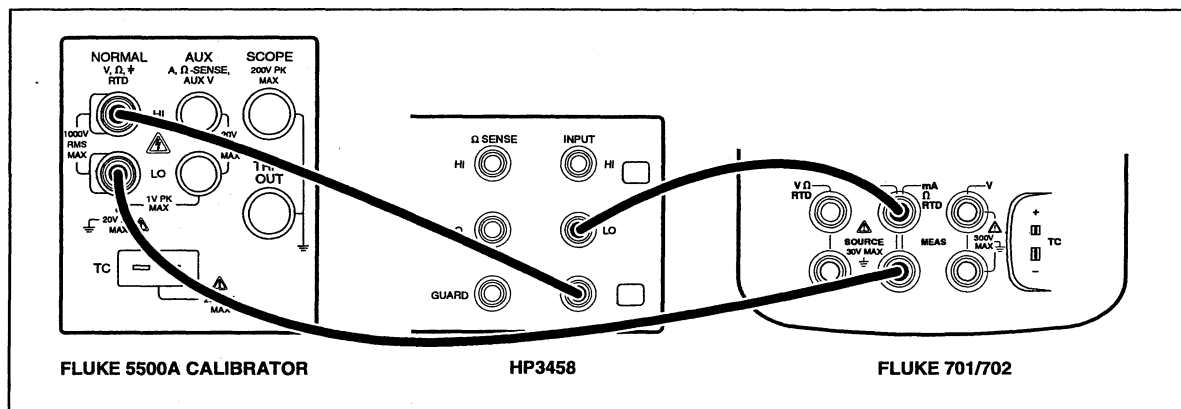

Figure 3-7. Simulate Transmitter Verification Connections
1. Connect the UUT, HP3458A, and 5500A as shown in Figure 3-7. The 5500A is used as a stable dc voltage source. Its value is not critical, and another dc source such as a battery can be substituted.